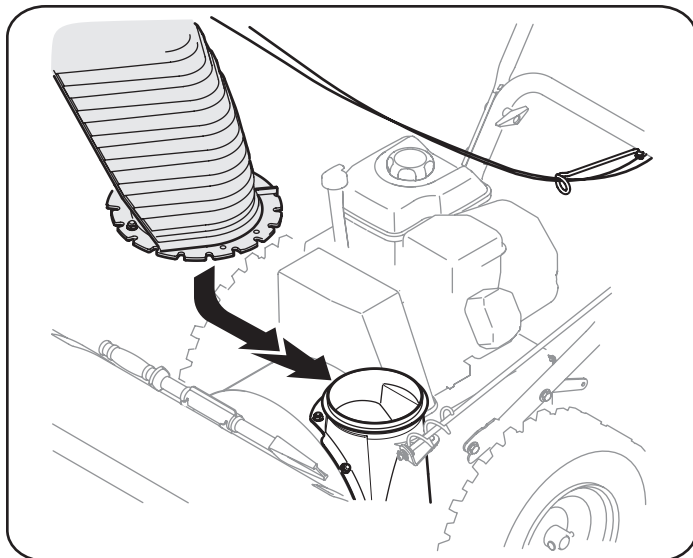

Figure 4
- Place chute assembly onto chute base as shown in Fig. 4, making sure that the notches engage with the spiral end of chute directional control.
- If not already done, slip the cables that run from the handle panel to the discharge chute into the cable guide extending over the top of the engine. See Fig. 4.